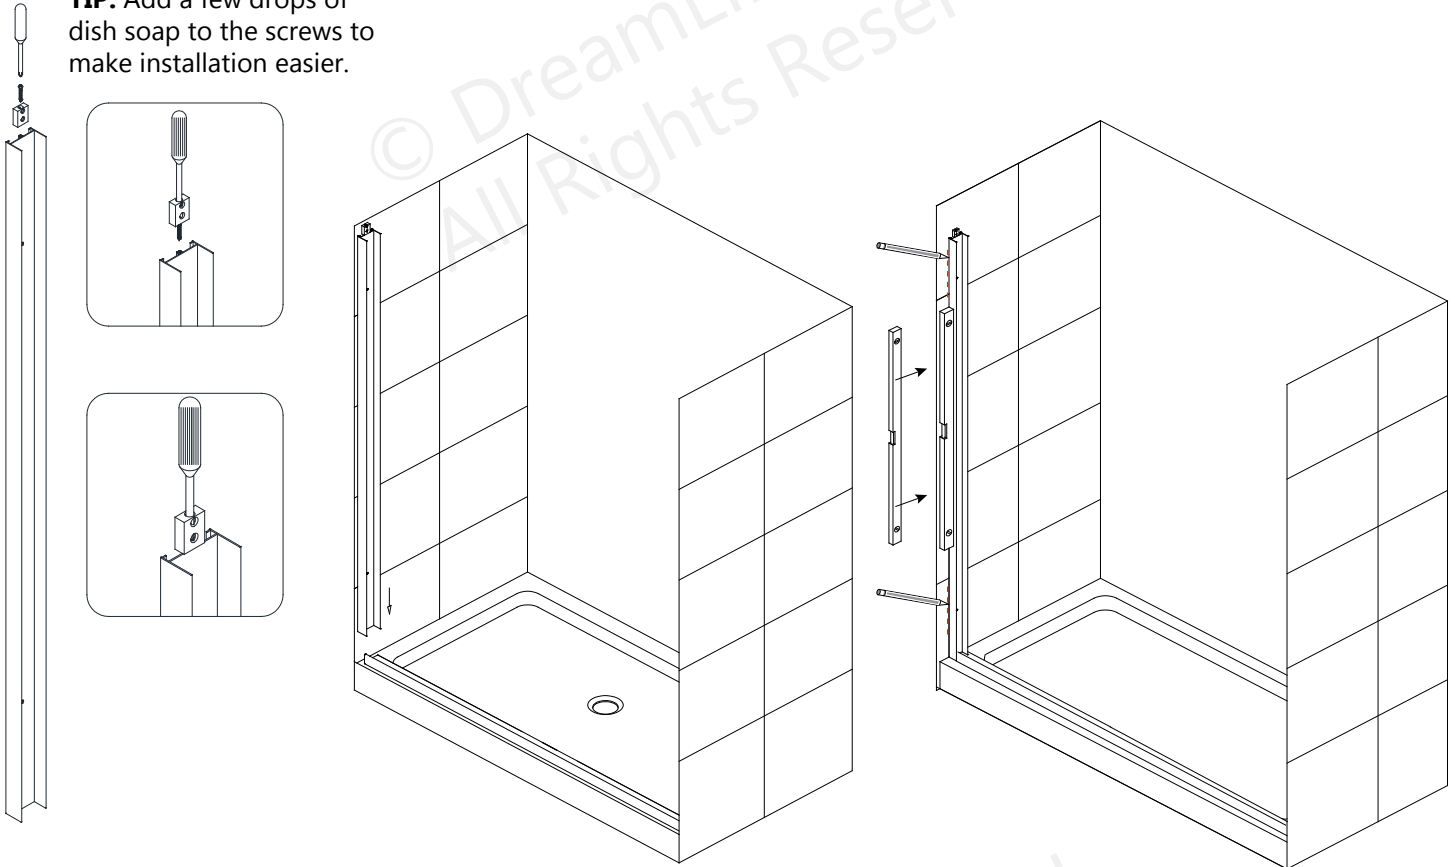

Fig 4a
4. Attach the **Upper Guide Rail Connectors (#07)** to one end of both **Wall Profiles (#01)** using the **ST4.2 x 30 Truss Head Screws (#13)**. (Fig 4a)
Remove the wall profile and drill **Ø5/16"** holes and insert the **Wall Anchors (#09)**. (Fig 4a and 4b)